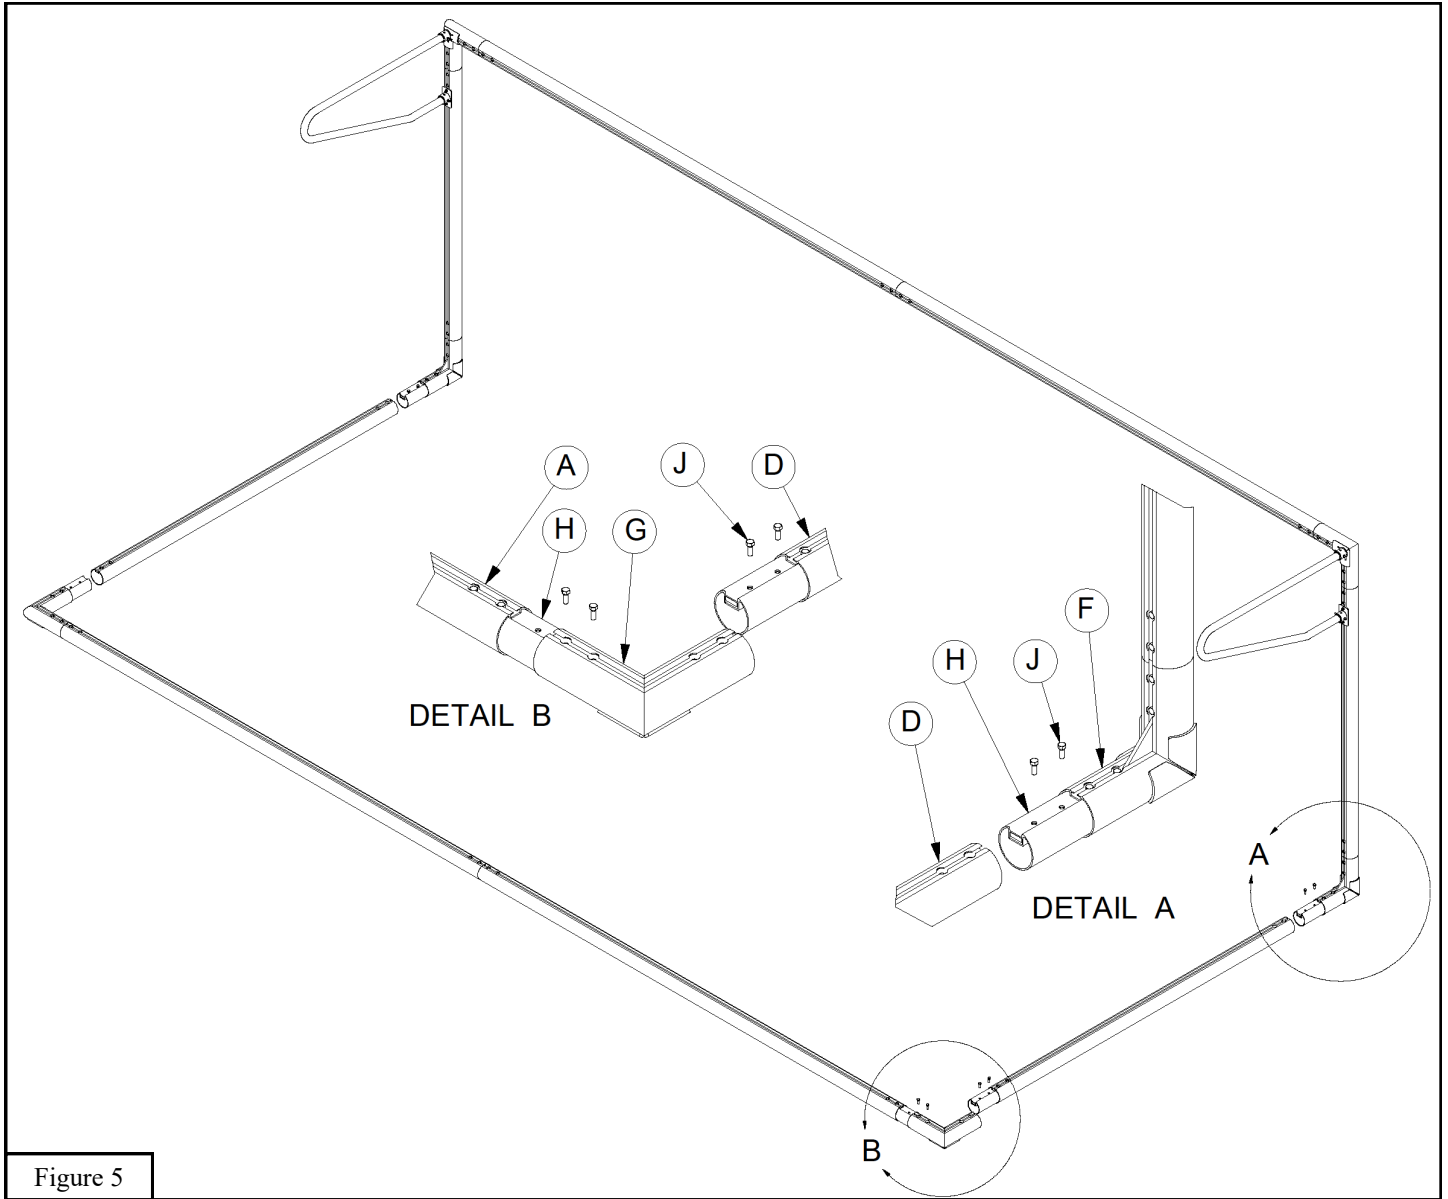

Figure 5
8. Attach the *Rear Corners* (G) to the two remaining *Crossbar* (A) assemblies from instruction #1 above, using the  $3/8'' \times 1''$  *Hex Bolts* (J) and *Connecting Bars* (I). See Figure 5.
9. Attach *Ground Extensions* (D) to the *Bottom Corners* (F) attached in instruction #5 above, using  $3/8'' \times 1''$  *Hex Bolts* (J) and *Connecting Bars* (I). See Figure 5.
10. Attach the assembled *Rear Corners* (G) and *Crossbar* (A) assemblies from instruction #6 above to the *Ground Extensions* (D). See Figure 5.